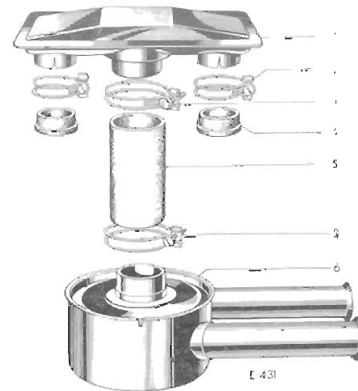

Fig. 40. Air box and hose details
Slacken the clips (2) and (3) (Fig. 40) securing air box (1) to carburettors, and hose (5) to air cleaner. Remove the air box and hose.